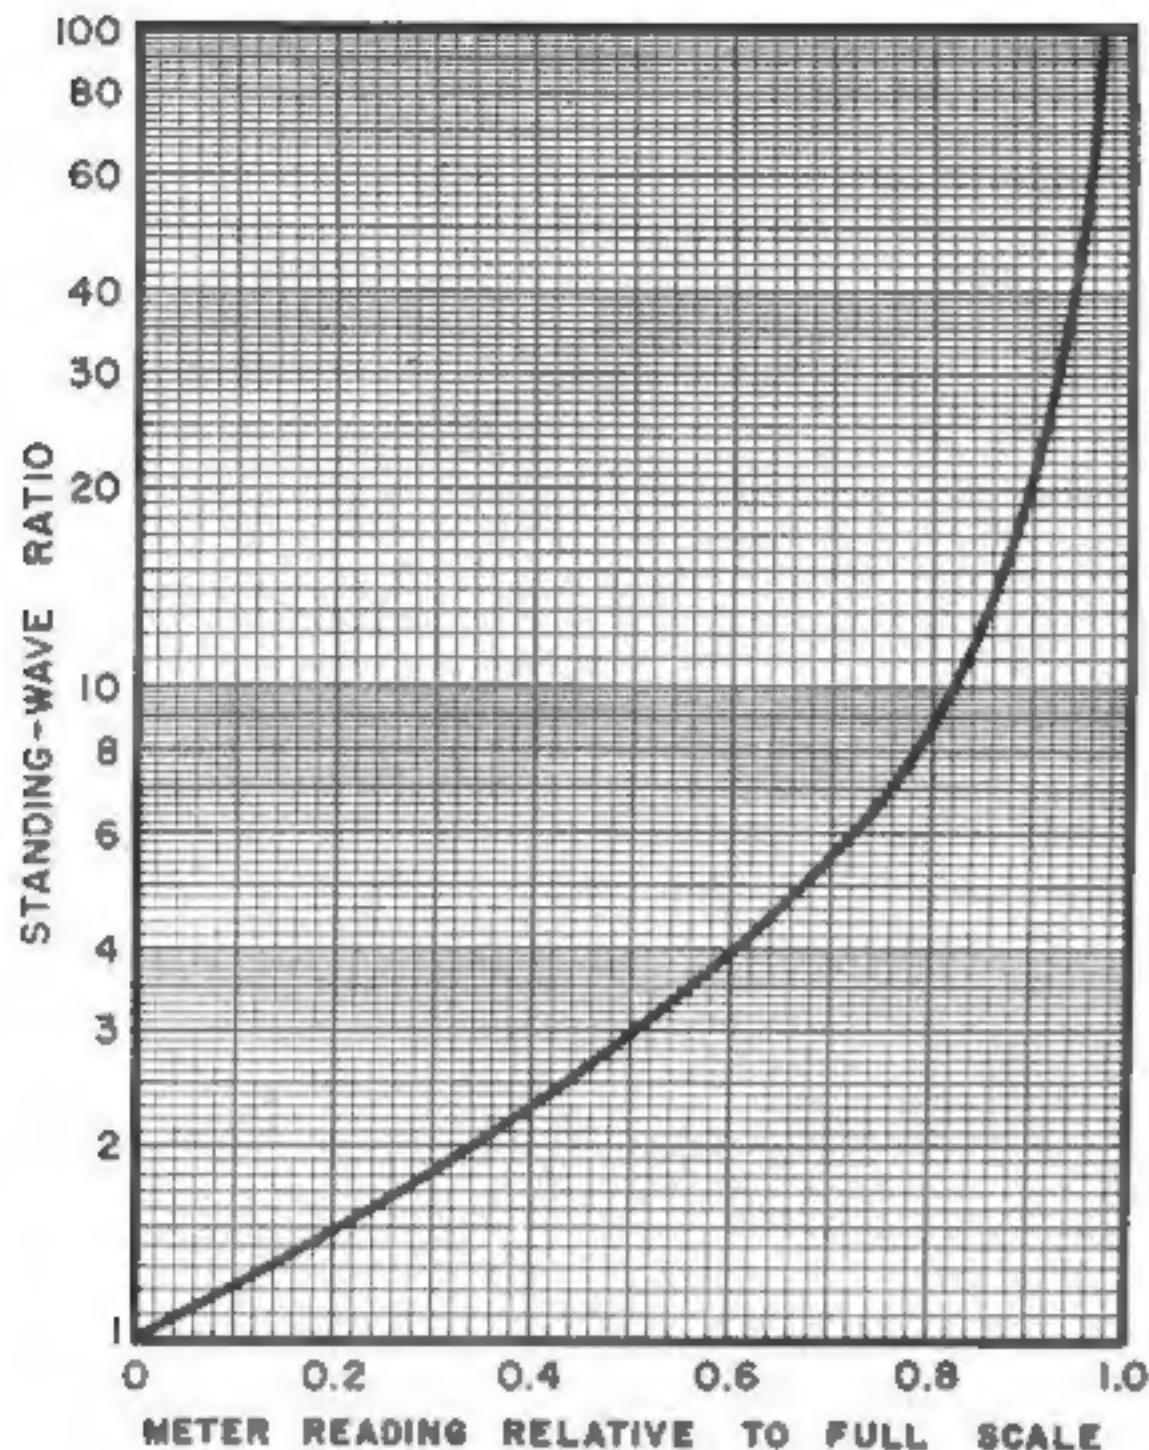

FIGURE 8. STANDING-WAVE RATIO CHART
11. Read the SWR from the chart in Figure 8. A meter reading of $.4$ relative to full scale deflection is a 2.3 to 1 SWR.
12. Read the SWR from the chart shown in Figure 8.